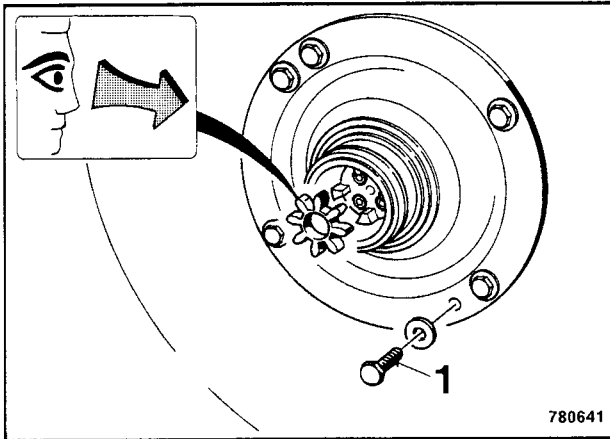

Fig. 9
2. Fasten the bearing housing with the screws 1 (Fig. 9).